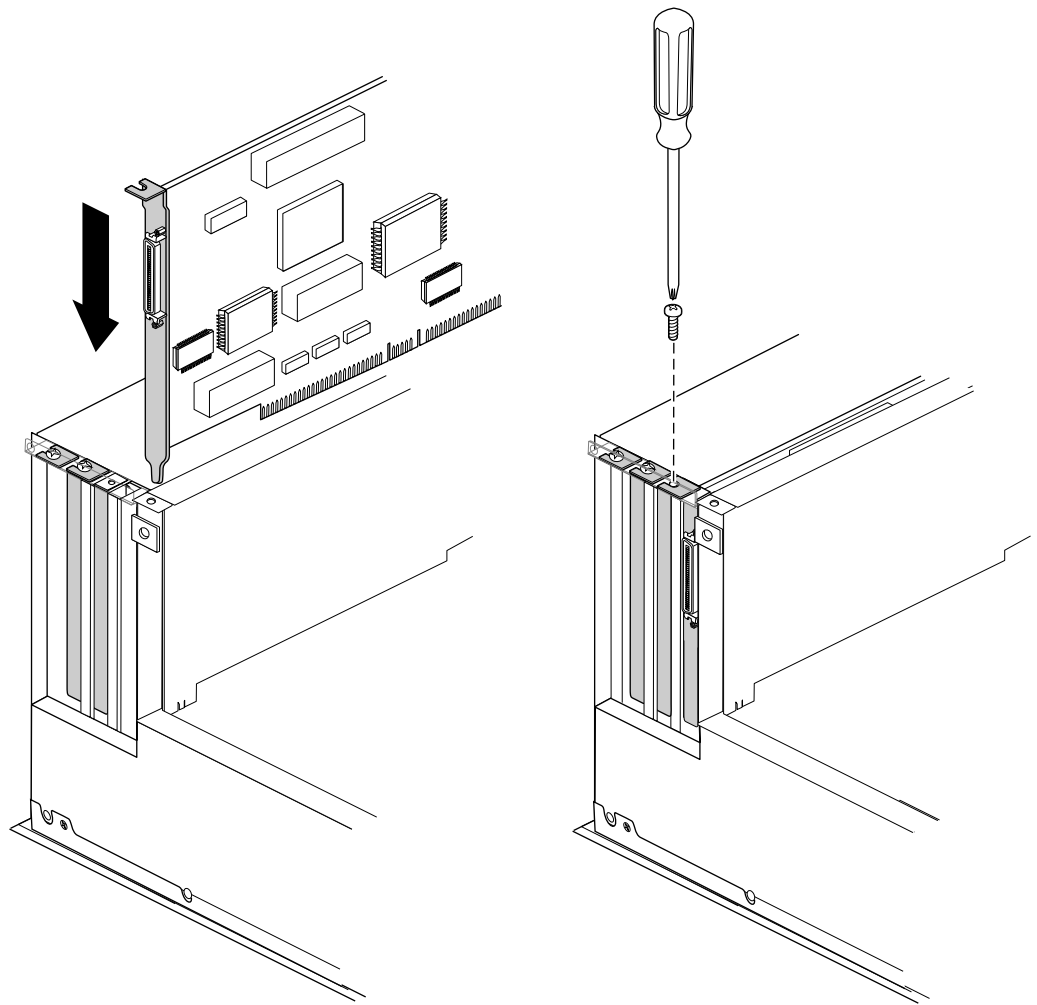

**Figure 7-6** Attaching a Feature Connector Cable to the PCI Board
- Connect the other end of the cable to the Origin200 feature connector, as shown in Figure 7-6.